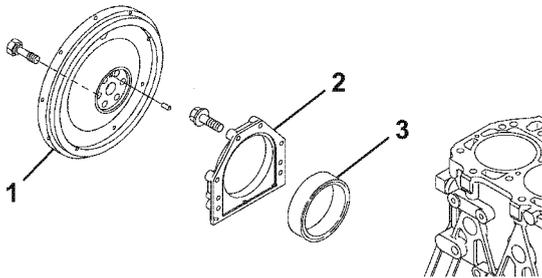

Figure 6-98
7. Apply ThreeBond Liquid Gasket No. 1207F, YANMAR Part No. 977770-1207F to the mounting flange of the seal housing (2, **Figure 6-98**).
10. Reinstall the flywheel (1, **Figure 6-98**) and tighten the bolts to the specified torque. See *Special Torque Chart* on page 6-16 for specifications.